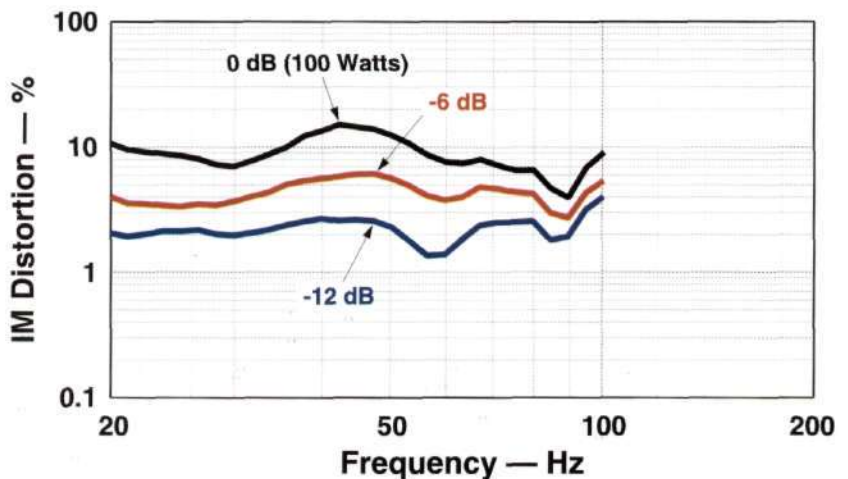

Fig. 7b: Intermodulation distortion versus frequency and power level.
Figure 7b shows the system's two-tone intermodulation distortion (IM), evaluated at the same power levels as in the previous test. Two equal-level tones, one at 440 Hz and the other swept from 20 to 100 Hz, were applied to the system. The intermodulation sidebands around the higher frequency were evaluated out to the third order, and the test results expressed as a percentage of the energy of the two original test tones. At the highest (100-watt) level, the IM generally stays below 10% over the whole measured range. At lower levels, the IM is correspondingly lower, staying below 5% at the -6 dB level and below 3% at the -12 dB power level. The Ohm's IM was not too objectionable subjectively, even at the 100-watt power level and at 20 Hz.